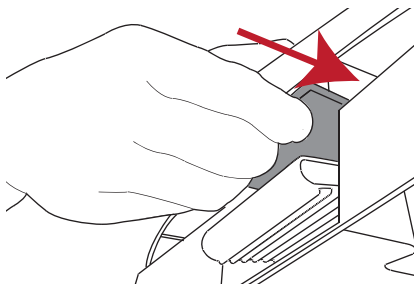

Figure 10
- After adjusting the seat push the red seat lock back into place. See Figure 10.